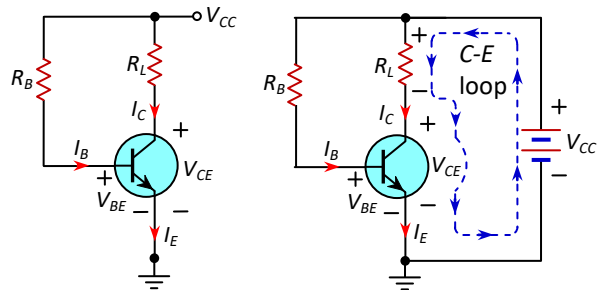

Fig.3-17: Transistor Circuit for determining load line.
To draw a load line we will consider a common-emitter (CE) circuit as shown in Fig.3-17. We need an expression that relates  $I_C$  and  $V_{CE}$ . This can easily be found from the C-E circuit of Fig.3-17. By applying KVL to C-E loop of this circuit we get,
In Fig.3-17 we have seen how a transistor can be biased properly using a single voltage source (battery or power supply). This is the simplest form of biasing circuit. To achieve the fixed operating point, there are many other biasing circuits. The names of different biasing circuits are: